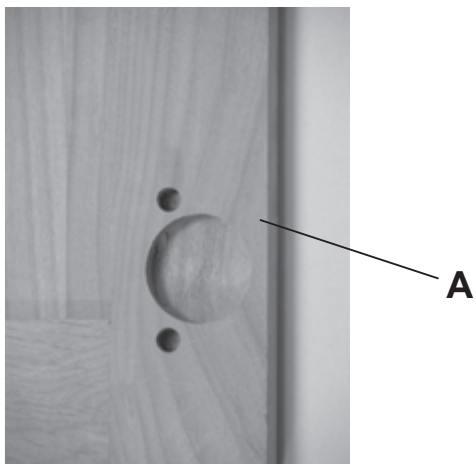

Fig. 3
3. Place two Doors (A) face down on a clean, protected surface. There are predrilled holes in the doors as shown in Figure 3. This is where you will be inserting the hinge part of the assembly. Insert the Side Panel Hinge (D) assembly that has the plastic knobs into the predrilled holes in the bottoms and tops of the Doors (A). See Figures 3 and 3a. **You must place both Side Panel Hinges (D) into the Doors before you attach the doors to the bookcase.**